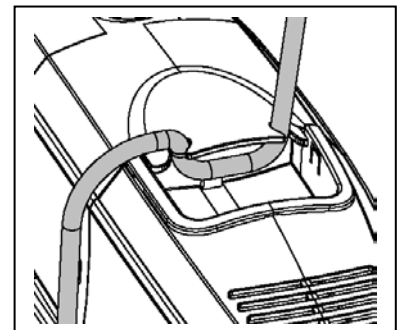

Fig. 2
2. Route the power cord through the handle on the top of the pump. Fig. 2